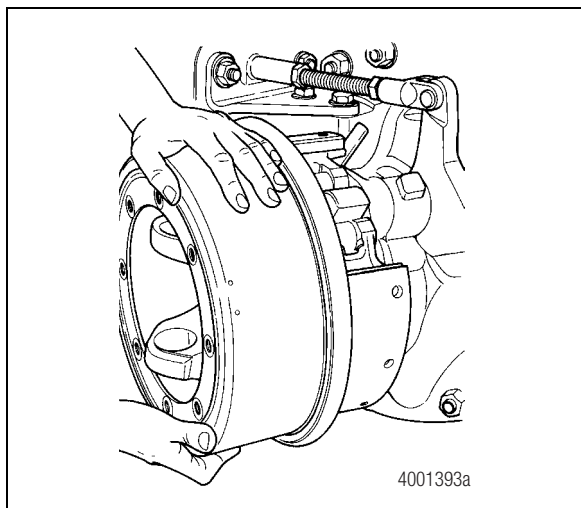

Figure 5.23
10. Install the brake drum onto the yoke flange. Install the nuts and the washers. Tighten the nuts to 85-115 lb-ft (116-155 N•m). Figure 5.23.